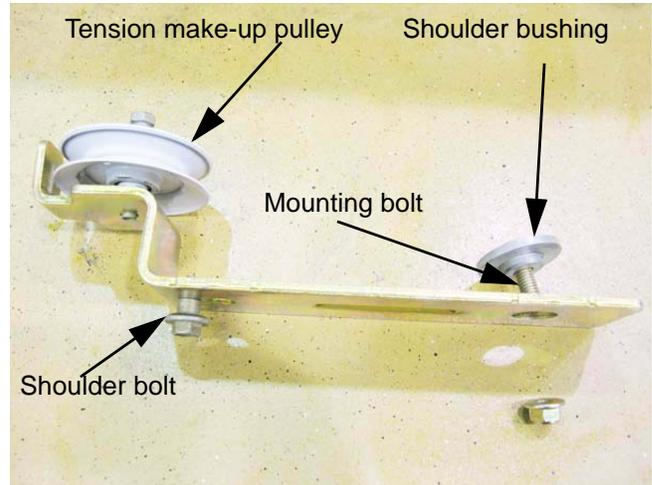

Figure 6.39
3. The arm pivots on a shouldered bushing. See Figure 6.39.